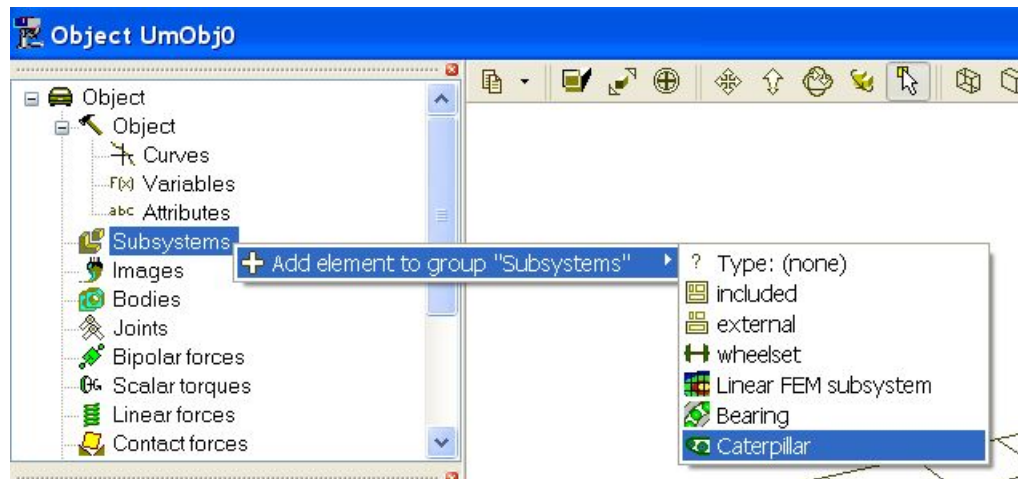

Fig. 3 Adding new subsystem “Caterpillar”
- click the right mouse button on this item and select the **Add element to group “Subsystems” | Caterpillar**, Fig. 3.